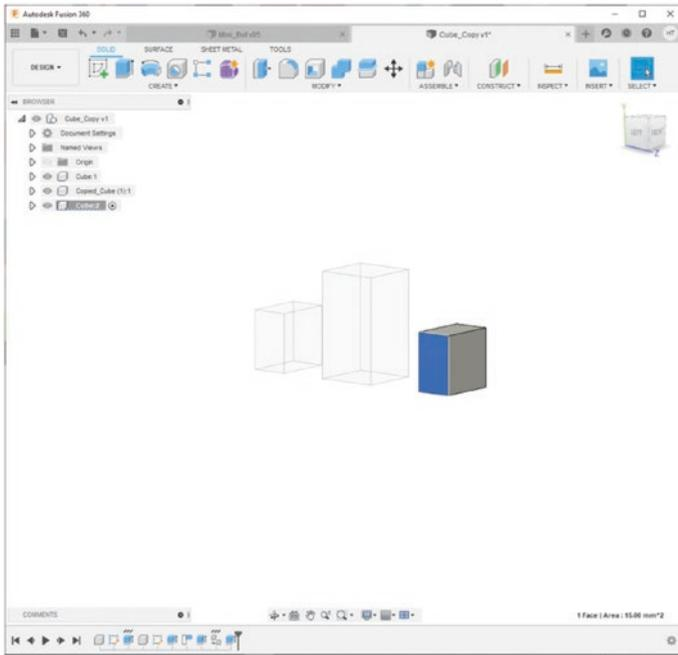

Figure 8-8. Select a face on a cube
1. Using the same example from the previous section, select one of the faces on a cube. See Figure 8-8.